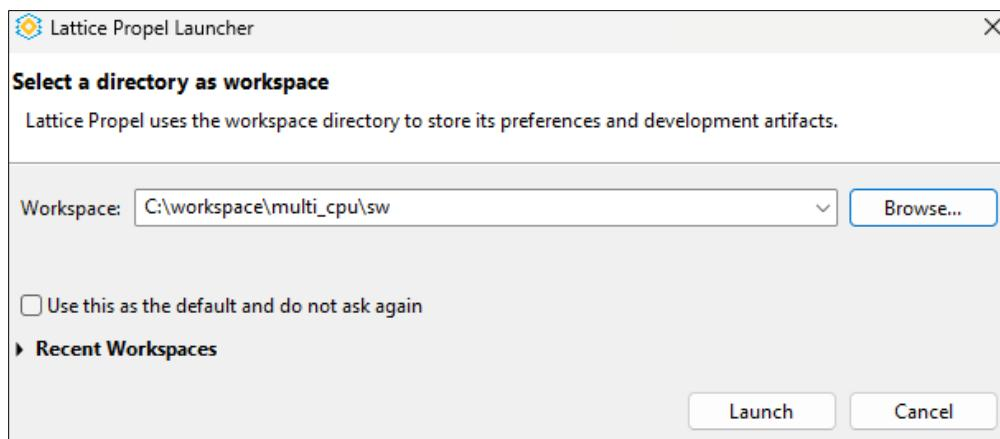

Figure 4.7. Lattice Propel SDK – Select Workspace and Launch
- Click **Launch** to open the SDK environment (Figure 4.7).